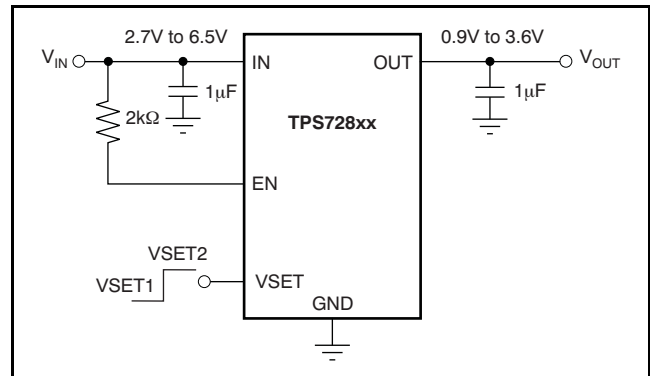
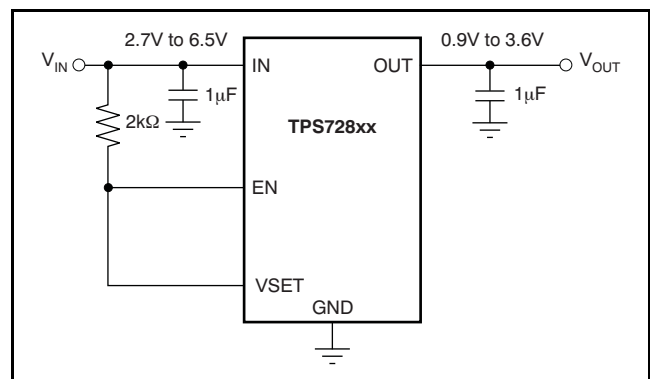

Figure 40. Circuit Showing EN Tied High when Shutdown Capability is Not Required
Figure 41. Circuit to Tie Both EN and VSET High
The enable pin (EN) is active high and is compatible with standard and low voltage, TTL-CMOS levels. When shutdown capability is not required, EN can be connected to the IN pin, as shown in Figure 40. Figure 41 shows when both EN and VSET are tied to IN. The TPS728xx, with internal active output pulldown circuitry, discharges the output to within 5% of  $V_{OUT}$  with a time ( $t$ ) of: